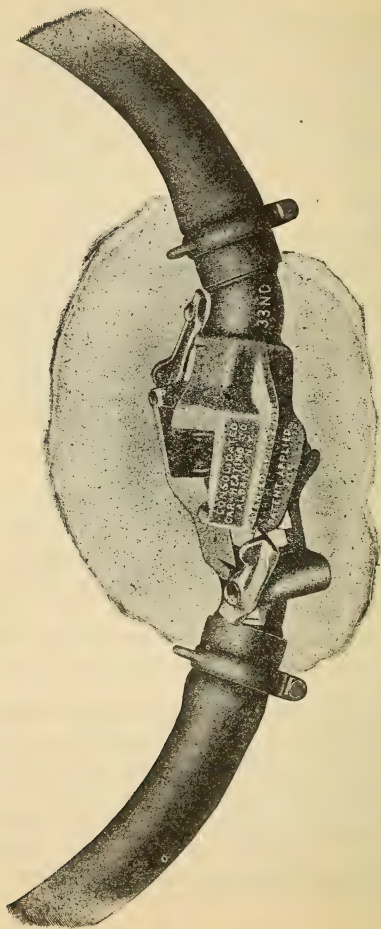

FIG. 18. COUPLING OF HEADS.
The Consolidated Car-Heating Company claim to have overcome this condition by the development of the type of coupler we describe (see Figure 18). The essential points in the construction of this type of coupler are: (1) an automatic locking device, (2) all the points of engagement are carefully machined, (3) the opening through the head can be adjusted from $1\frac{1}{4}'$ to $1\frac{1}{2}'$, (4)